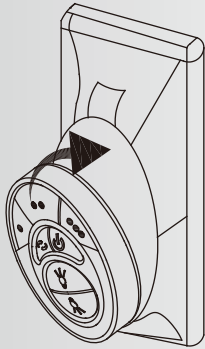

Fig. 24
Step 1. To place the transmitter in the wall plate , put the bottom end in first and then press the top into the wall plate. The transmitter is now held in the wall plate and will function from here . (Fig. 24)